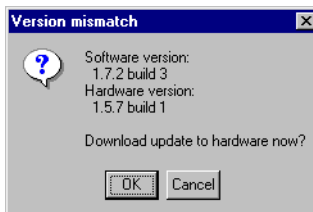

Figure 1-5. Version Mismatch Dialog Box
After you install or update the Flash Pro software, a Version Mismatch dialog box may appear, as shown in Figure 1-5 so you can download an update to your Flash Pro hardware.
1. Click **OK** to start the update, as shown in **Figure 1-5**.